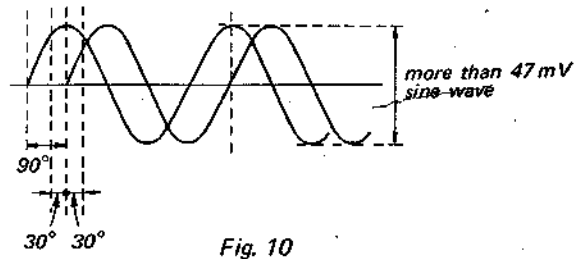

Fig. 10
10. Make sure that the waveform on the oscilloscope is shown in Fig. 10.